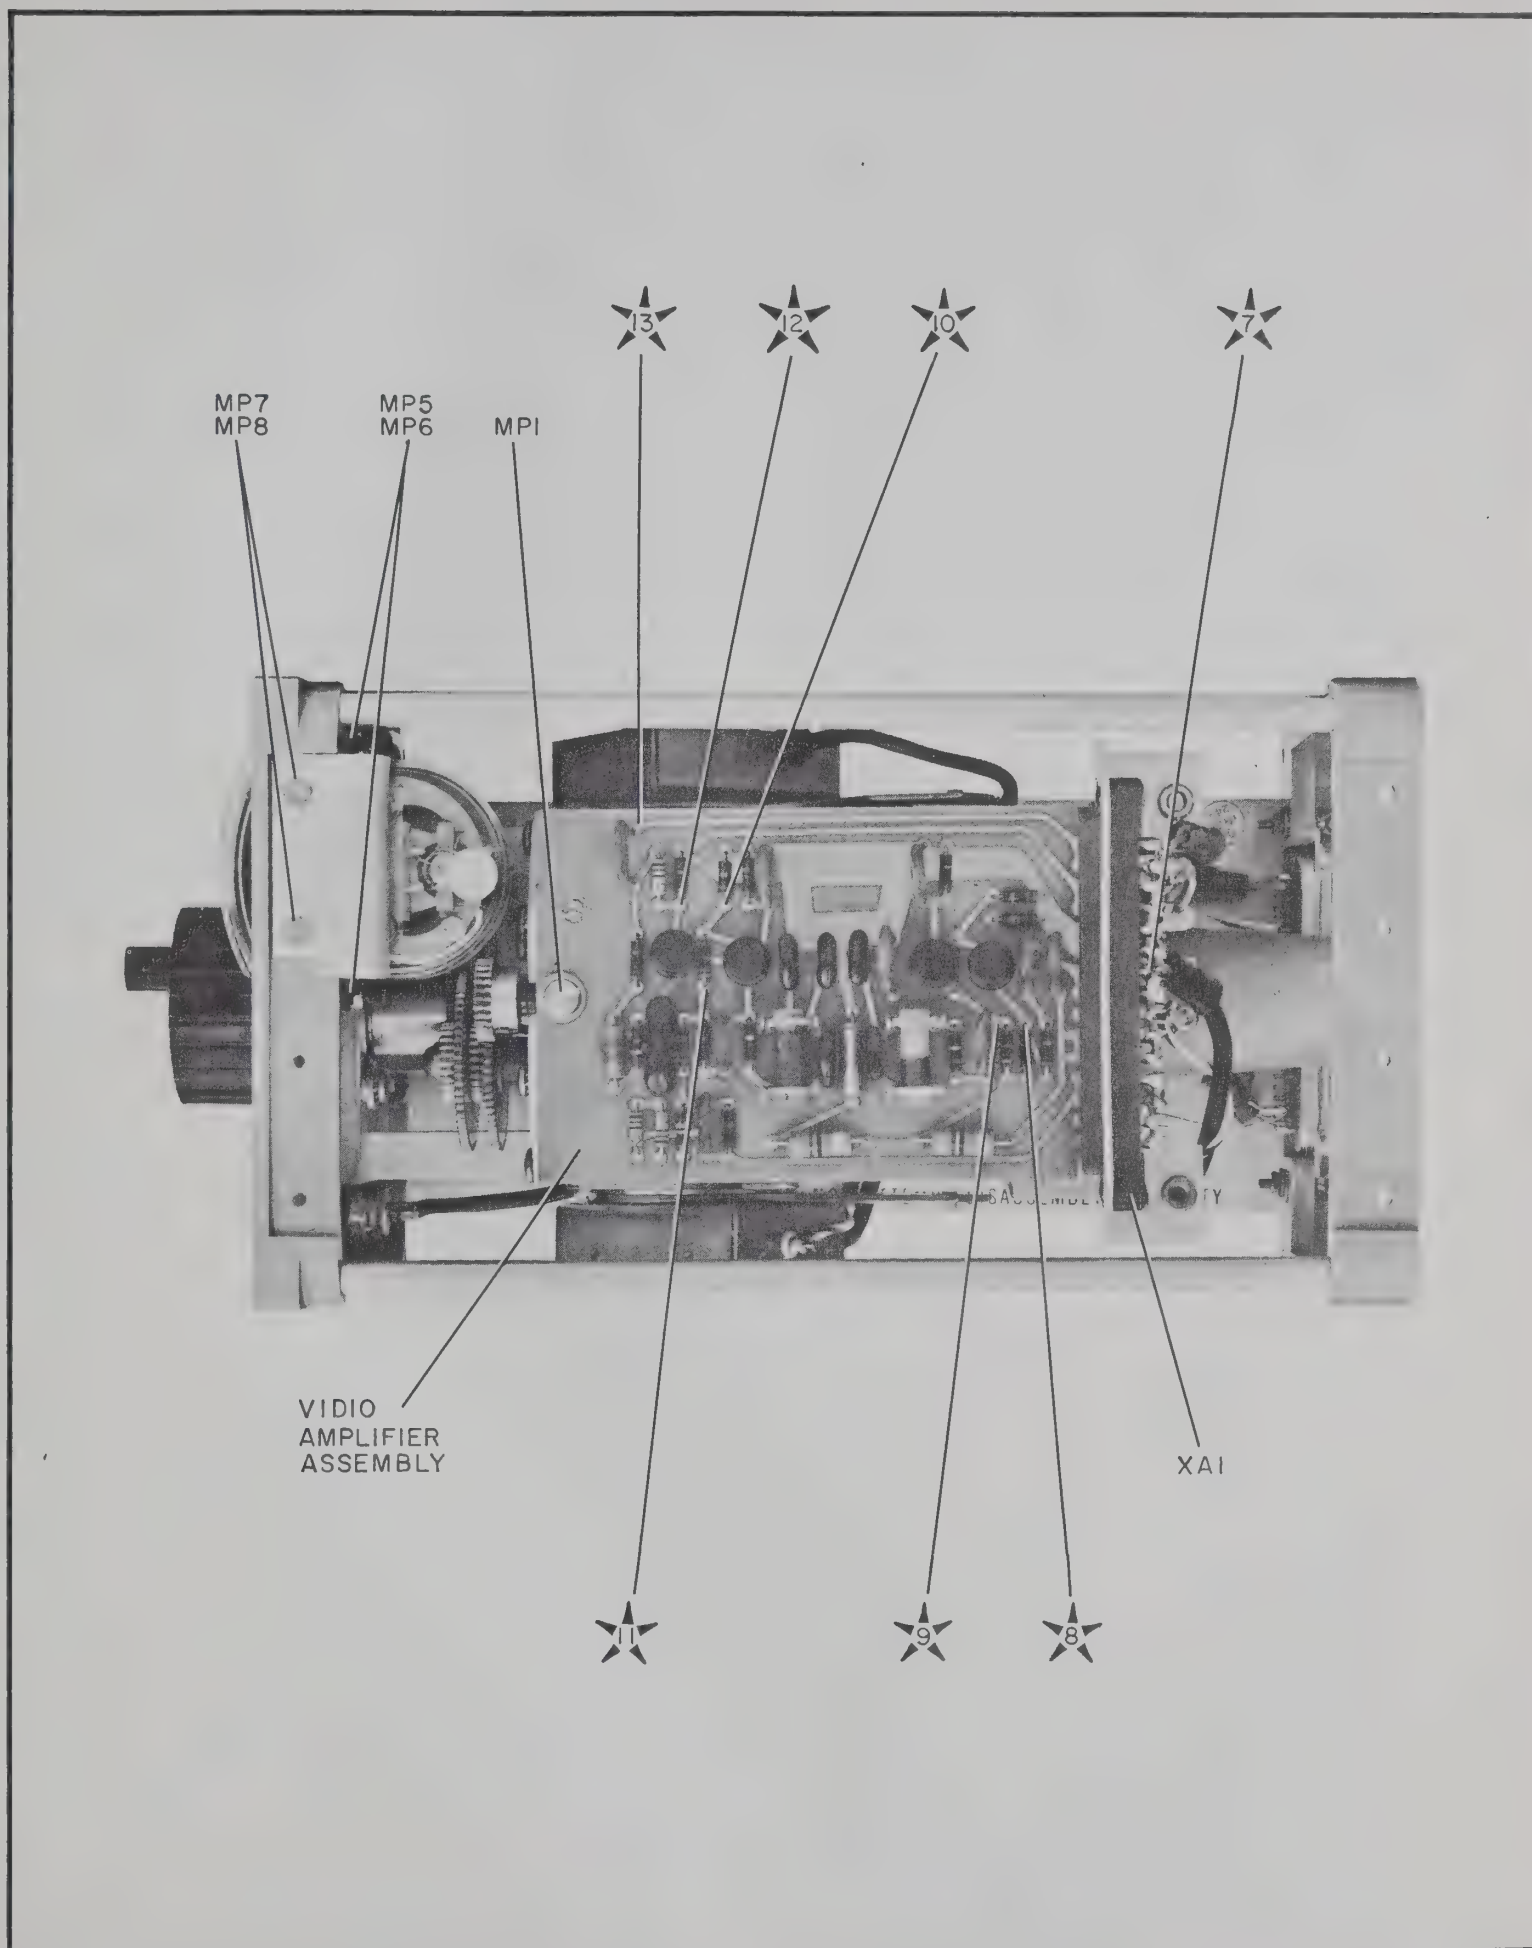

Figure IIA-7. Top View - Test Points
c. Connect RF Millivoltmeter to Test Point #13 (see Figure IIA-7).
e. Using RF Millivoltmeter, measure output of converter at Test Point #13 (see Figure IIA-7). Voltage should be at least 100 mv.